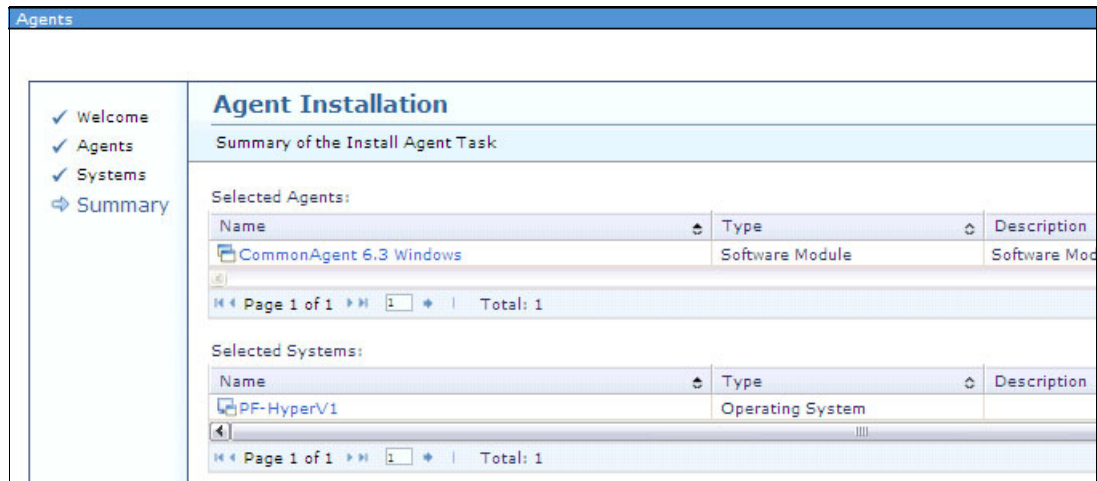

Figure 12-12 Agent Installation: Summary
4. Check the summary of the Common Agent installation as shown in Figure 12-12.